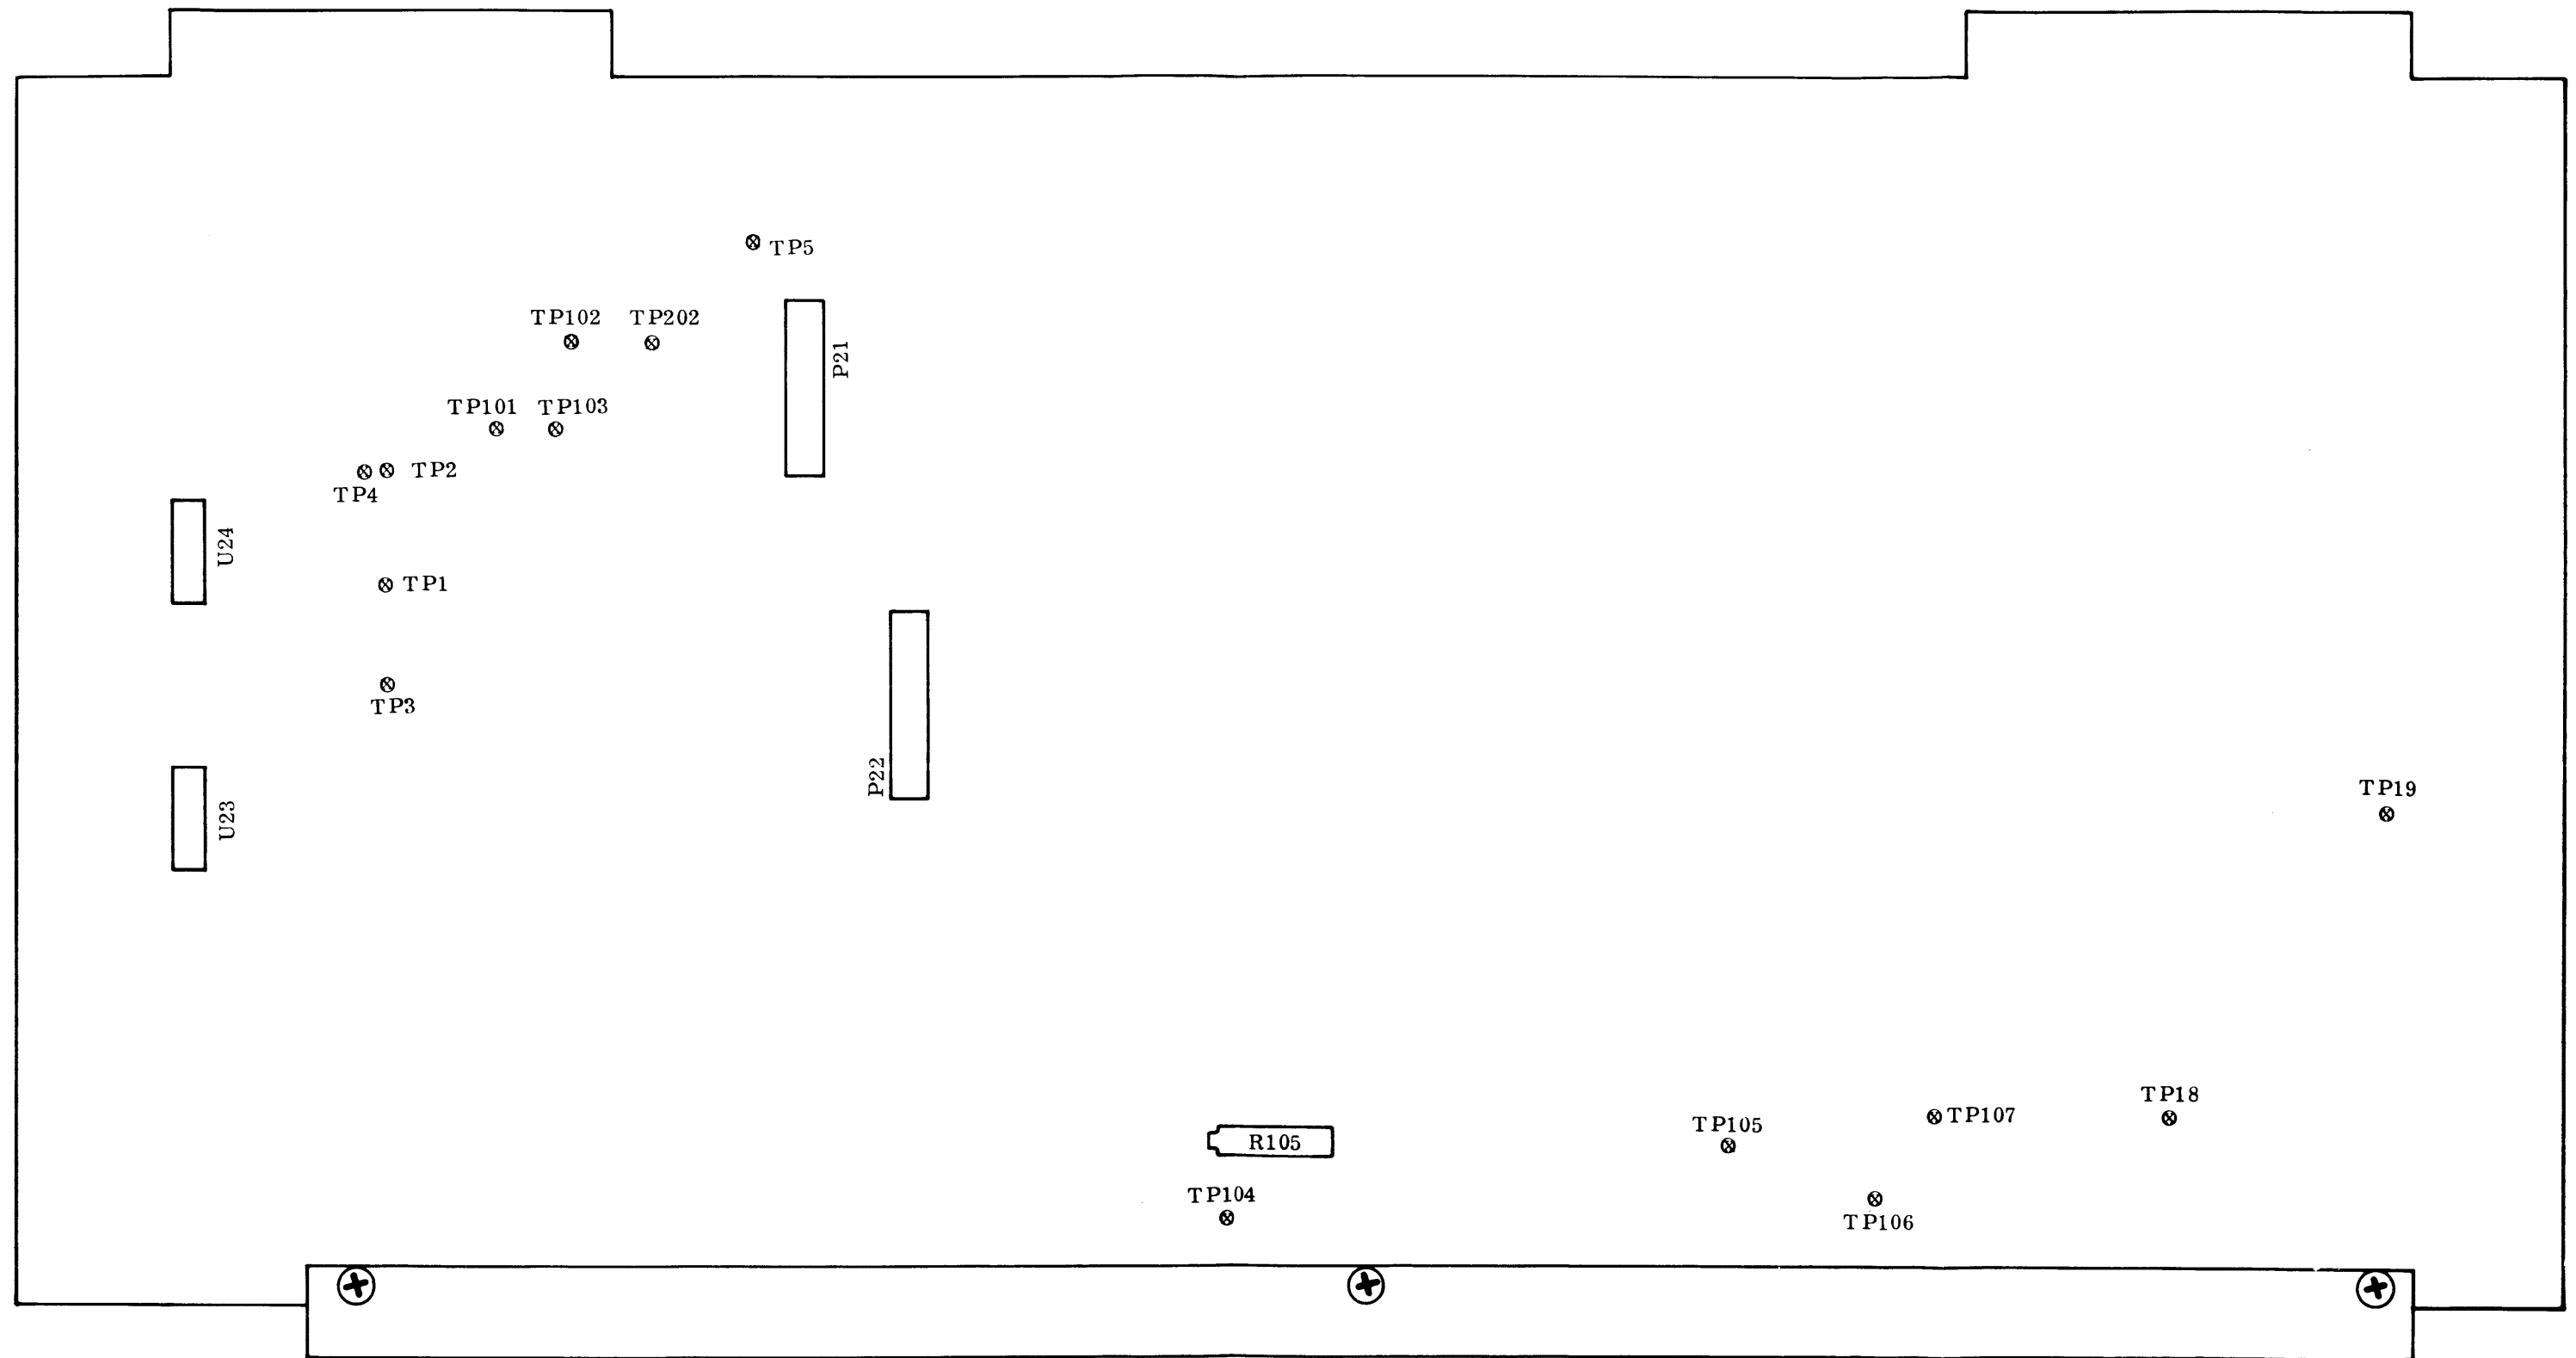

Figure A5-2. Phase-Encoded Read/Write Board Test Point Chart
- (1) If possible, write repeated all-1's data record of fixed record length. This provides for most easily read level adjustment.
- (2) If all-1's record of fixed length cannot be written, write record consisting of random data, varying record length as convenient. This procedure is effective, but oscilloscope trace is not as easy to read as that of step 1.
- b. Each read channel is provided with a gain adjustment potentiometer (as R105, for channel 1). Monitor TP106 - 906 (for channels 1 through 9) and adjust R105 - 905 of same channel for level of at least -1.5 volts, as shown in Figure A5-1. (See also Figure A5-2.)
A5-5. Skew is adjusted mechanically at the factory and should require no readjustment within the life of the head. Skew is monitored at TP19 (Figure A5-2) while a masterskew tape is being read. Proper and improper waveforms are shown in Figure A5-3. Mechanical adjustment is performed in accordance with paragraph 5-42 of this manual.